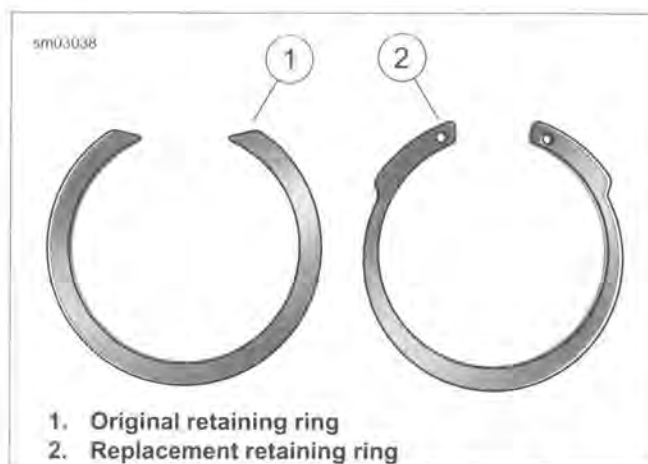

Figure 6-41. Main Drive Gear Retaining Rings
- See Figure 6-41. When replacing needle bearings, replace retaining rings (1) with **new** retaining rings (2).